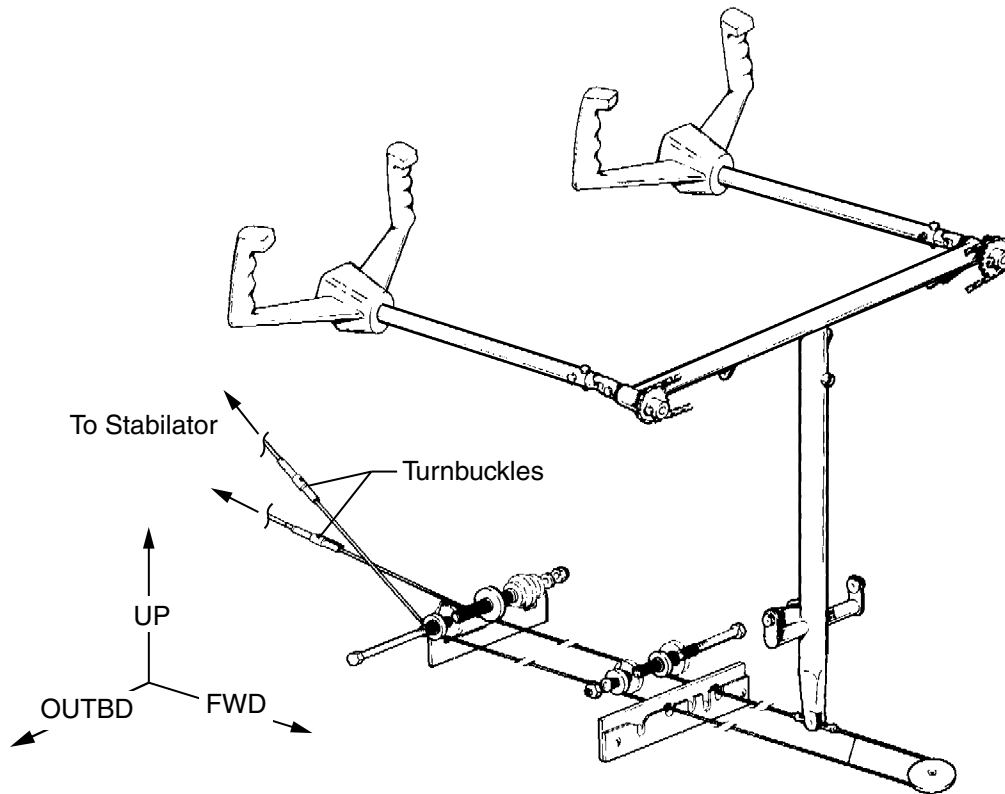

Figure 1
4. Identify the two (2) stabilator flight control cable turnbuckles, which are located inside the tailcone, directly aft of the rear cabin bulkhead. See Figure 1. Using procedures described in the appropriate Service/Maintenance Manual, disassemble the turnbuckle bodies to facilitate a complete inspection of the turnbuckle bodies and associated cable terminals.